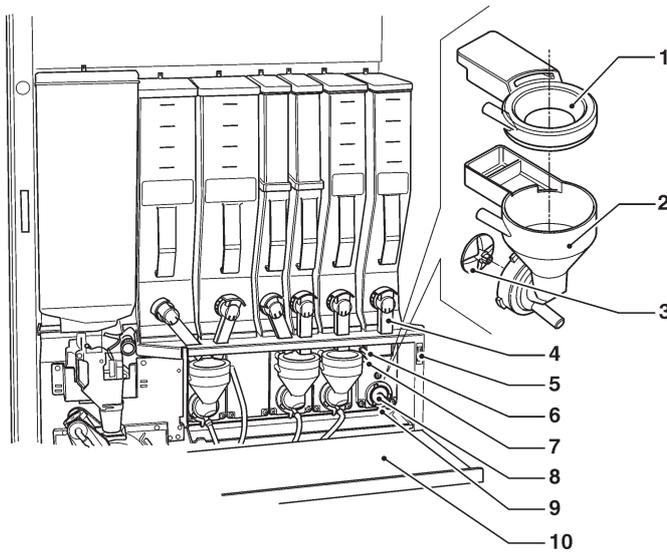

Fig. 10
- remove (see fig. 10) the powder funnels, the water collection boxes, the powder deposit funnels and the impellers of whipper motors from the mixers;